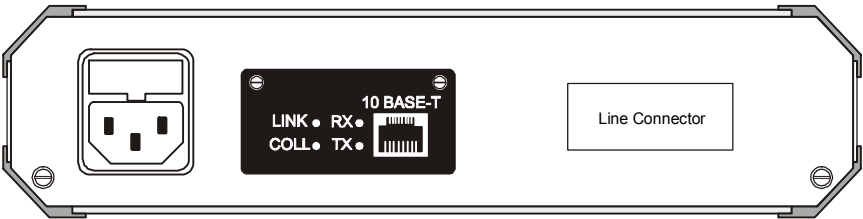
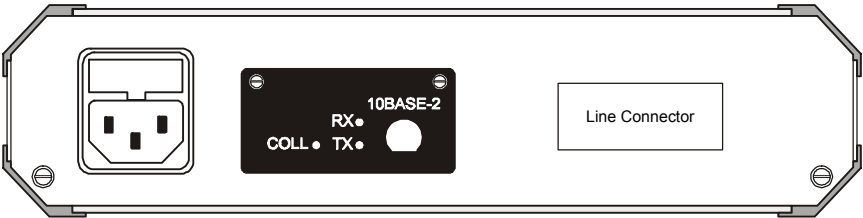
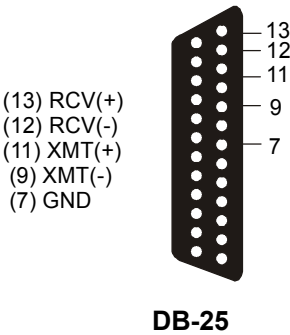

Figure A-2 ASM-20 Rear Panel with IR-ETH/UTP Connector Option
Figure A-3 ASM-20 Rear Panel with IR-ETH/BNC Connector Option
Figure A-4 IR-ETH Connector for the ASM-20 Rack-Mount Version
*Figure A-2* and *Figure A-3* show the rear panel of ASM-20 with the IR-ETH connector options. The IR-ETH connector for the ASM-20/R card (rack mount version) is shown in *Figure A-4*.